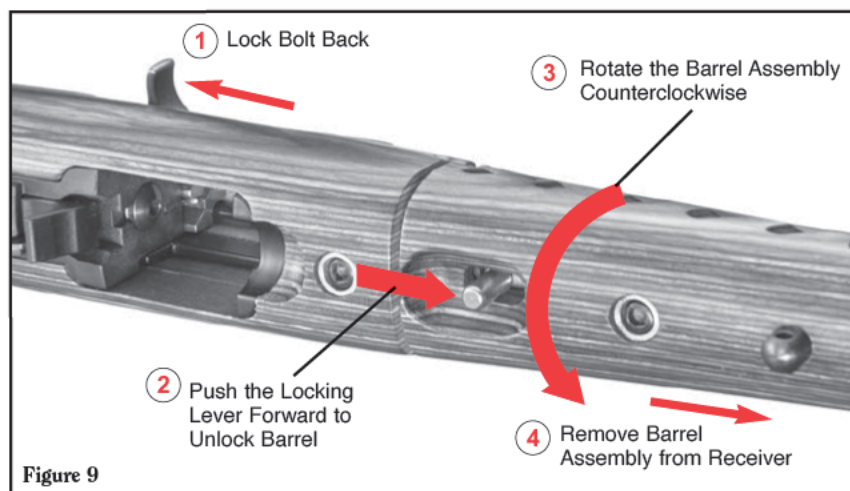

Figure 9
- 4 pull the barrel assembly out of the receiver. (See Figure 9.)